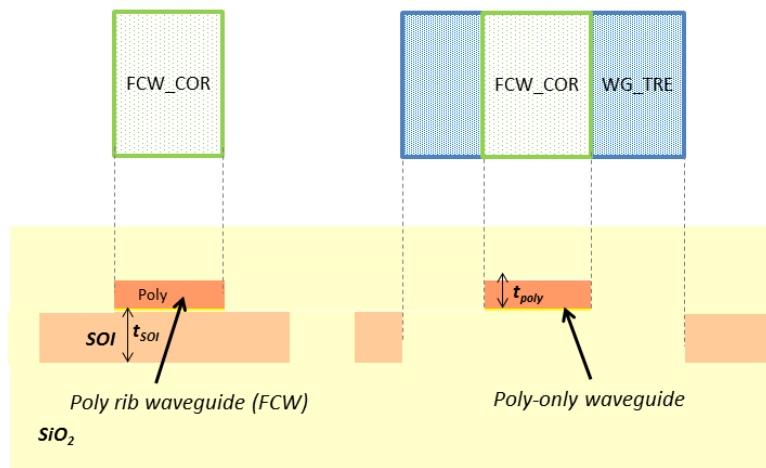
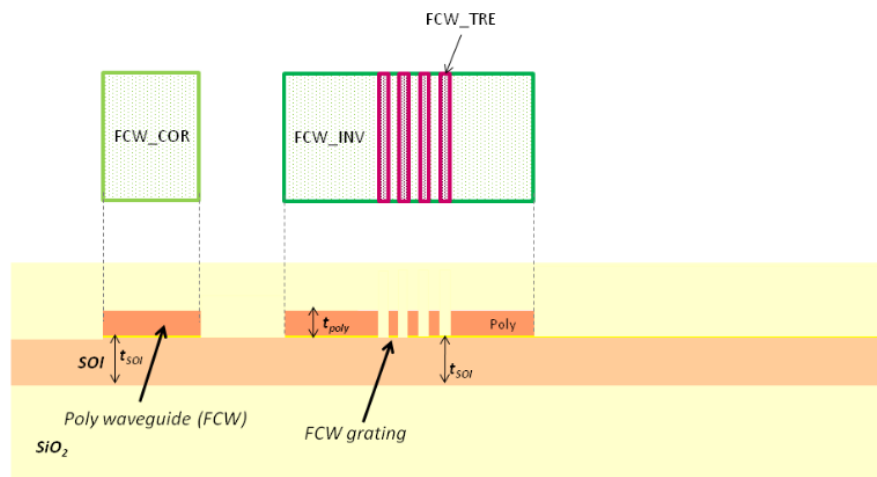

Figure 5: Poly patterning: FCW cross-section and mask layers.
Figure 6: Poly patterning: FCW cross-section and mask layers.
- Poly-Si patterning (FCW): Figure 5 and Figure 6.